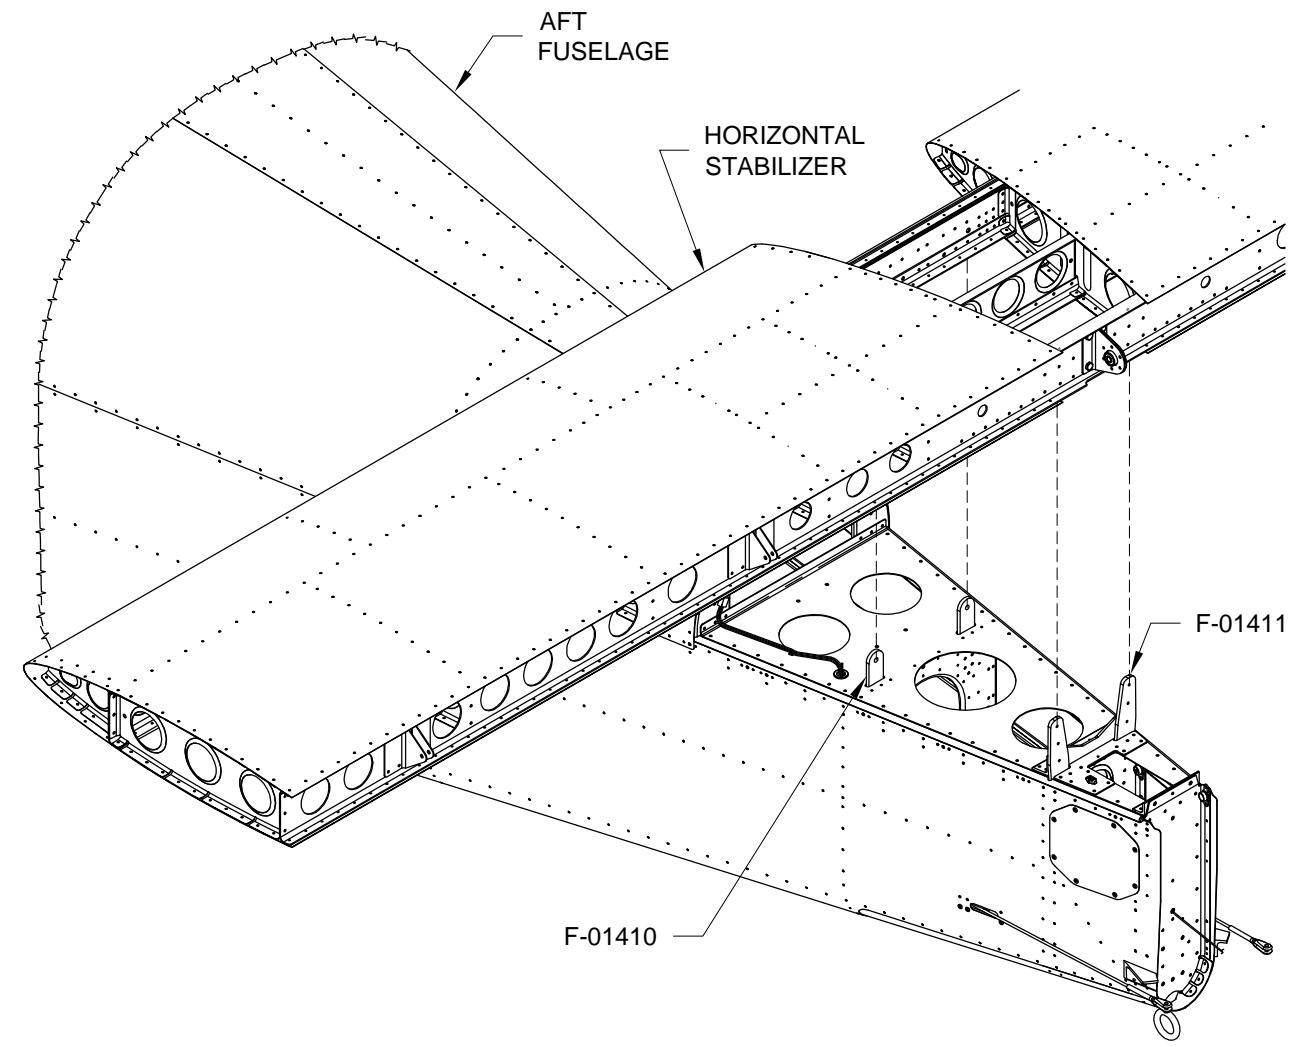

FIGURE 1: POSITION HORIZONTAL STABILIZER
Step 1: Position the Horizontal Stabilizer on the Aft Fuselage as shown in Figure 1 & Figure 2.